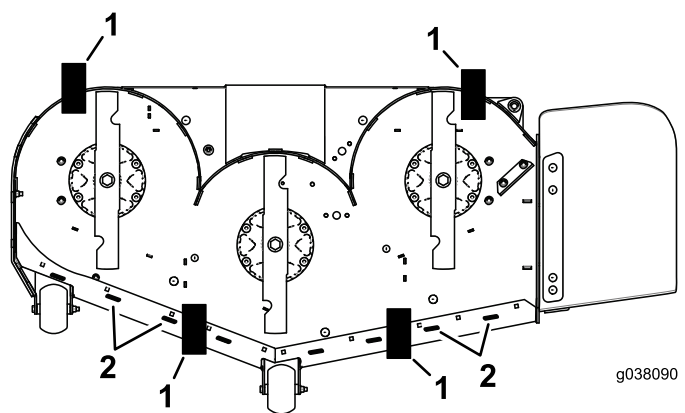

Figure 122
10. Place 2 blocks (see Block Height and Rake Table) under the rear edge of the cutting deck skirt; 1 on each side of the cutting deck (Figure 122).